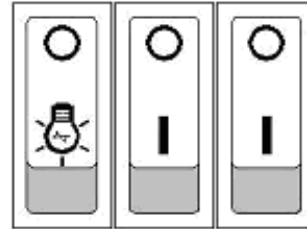

Fig.9
- The first switch marked with a light bulb controls the lamp and flame effect as shown in **Fig.9**.